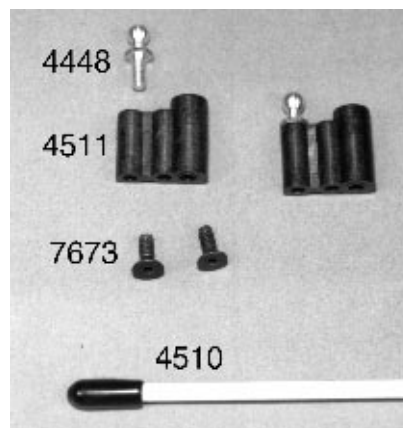

Fig. 56
**Figs. 56 & 57** Open bag #6, the shock bag, and remove the #4511 molded front shock/antenna mount, one #4448 aluminum ball end, and two #7673 4-40 x 5/16" FHSScrews. Look closely at the #4511 shock/antenna mount. One side is flat. This will be the bottom of the mount. Now look at the top. One side is larger than the other. Thread the #4448 aluminum ball end into the small side. Now go to the master bag and remove the #4510 fiberglass antenna rod. The plastic end cap will already be installed. Push the exposed end of the antenna rod into the hole in the large side of the shock/antenna mount.